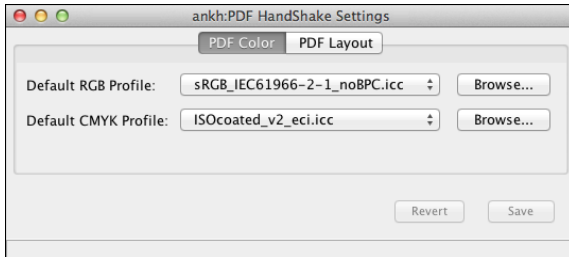

Fig. 5.2: Opening the “PDF HandShake Settings” dialog
- First, open the `Settings` menu and select `PDF HandShake Settings` to open the dialog for the PDF HandShake server settings (Fig. 5.2).
The default profiles shown in Fig. 5.2 are set automatically after product installation. They are both available in the “ICC-Profiles” volume on your server. You can define your own server defaults via the `Browse...` button. American customers, for instance, should switch to a SWOP CMYK profile.